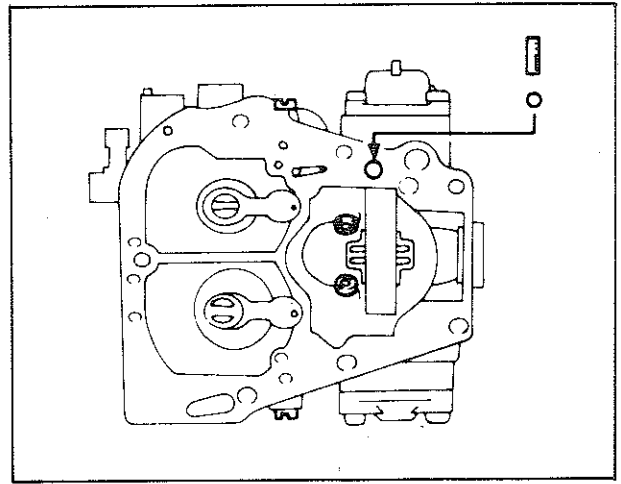

Fig. 24—Accelerator pump discharge check ball and weight location
(8) Install the accelerator pump discharge check ball and weight (Fig. 24).
(9) Install the steel ball to the bottom of float chamber.